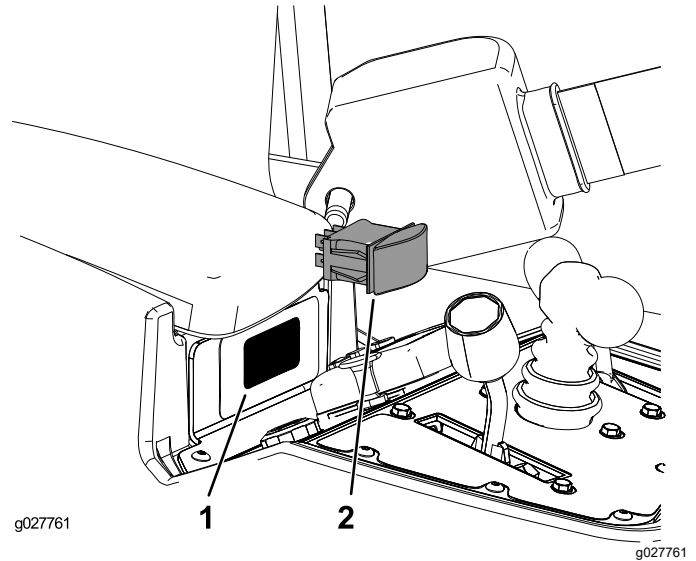

Figure 10
2. From inside the console, press the plug out of the hole (Figure 10).
3. Press the rocker switch into the console mounting hole as shown in Figure 10.